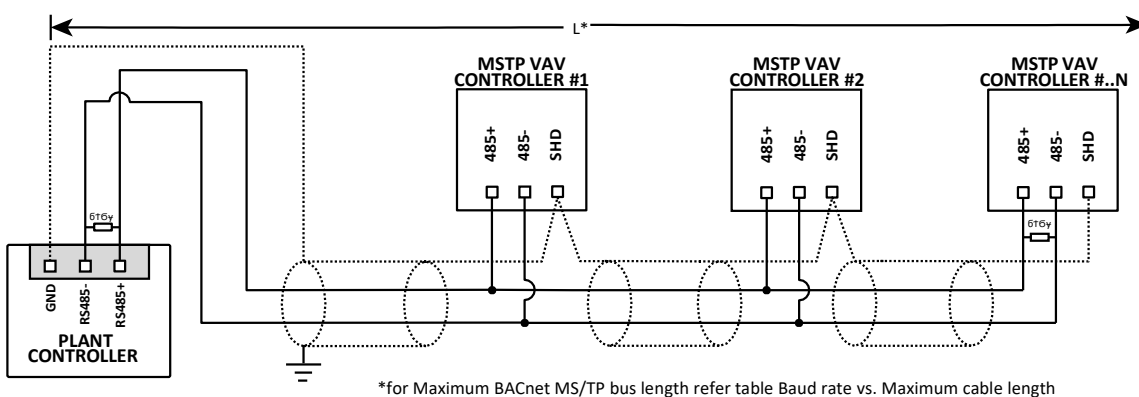

Figure 12. Connection to a BACnet MS/TP Bus
- Maximum BACnet MS/TP bus length (= "L" on Figure 12. See Table 6, "Baud rate vs. Maximum cable length," on page 15.